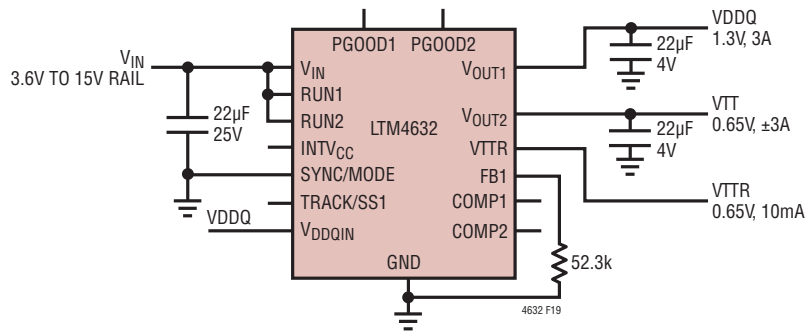

Figure 19. 3.6V to 15V Input, 1.3V/3A VDDQ, 0.65V/ \pm 3A VTT and 10mA VTTR Design
**Table 5. Output Voltage Response for Each Regulator Channel vs Component Matrix (Refer to Figure 19)